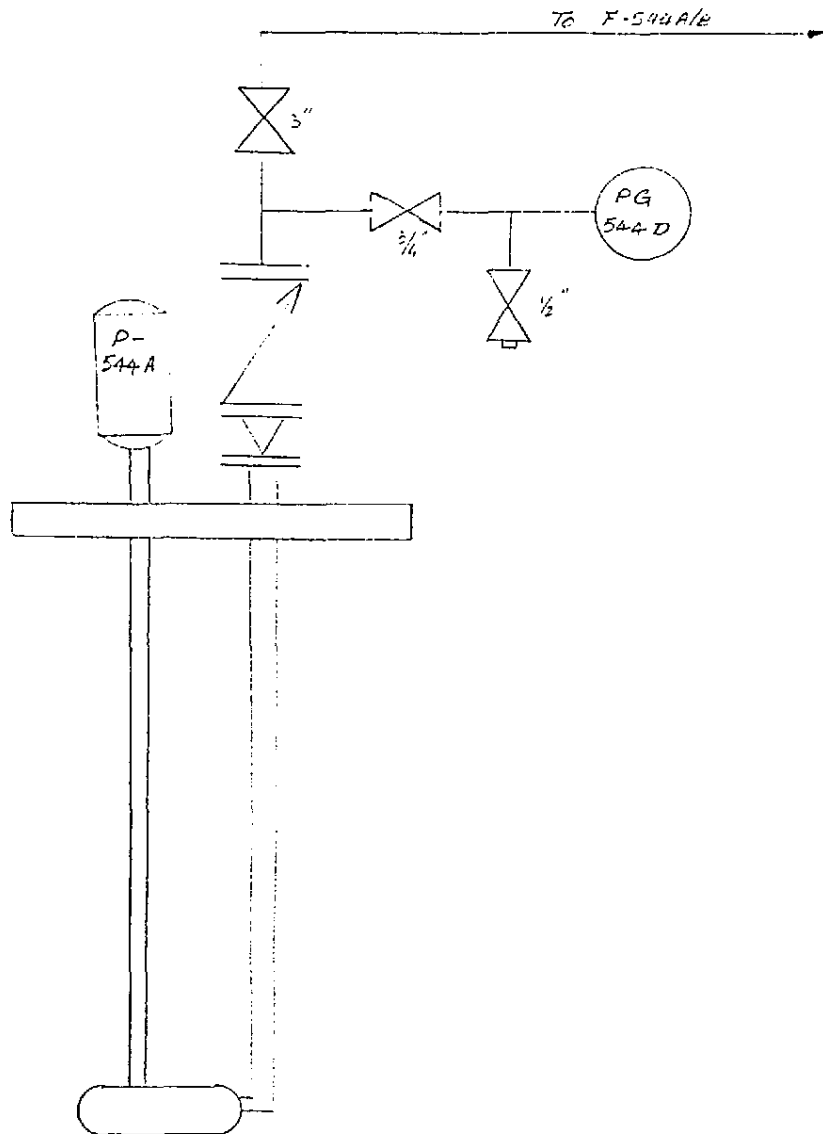

FIG 9 P-544A
2. Open the discharge valves on P-544A/B (Figure 9).